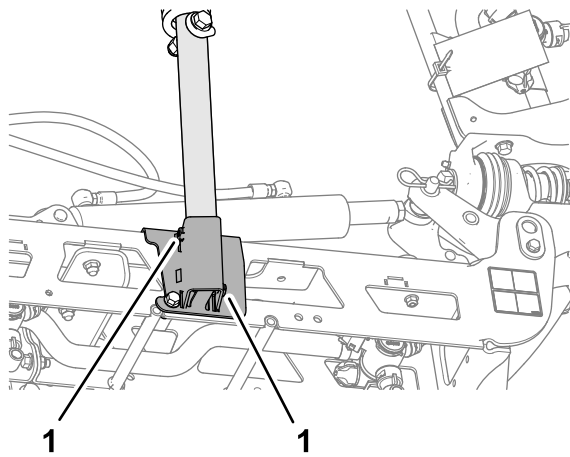

Figure 117
3. Loosen the 2 setscrews that secure the lower cradle tube (Figure 117).